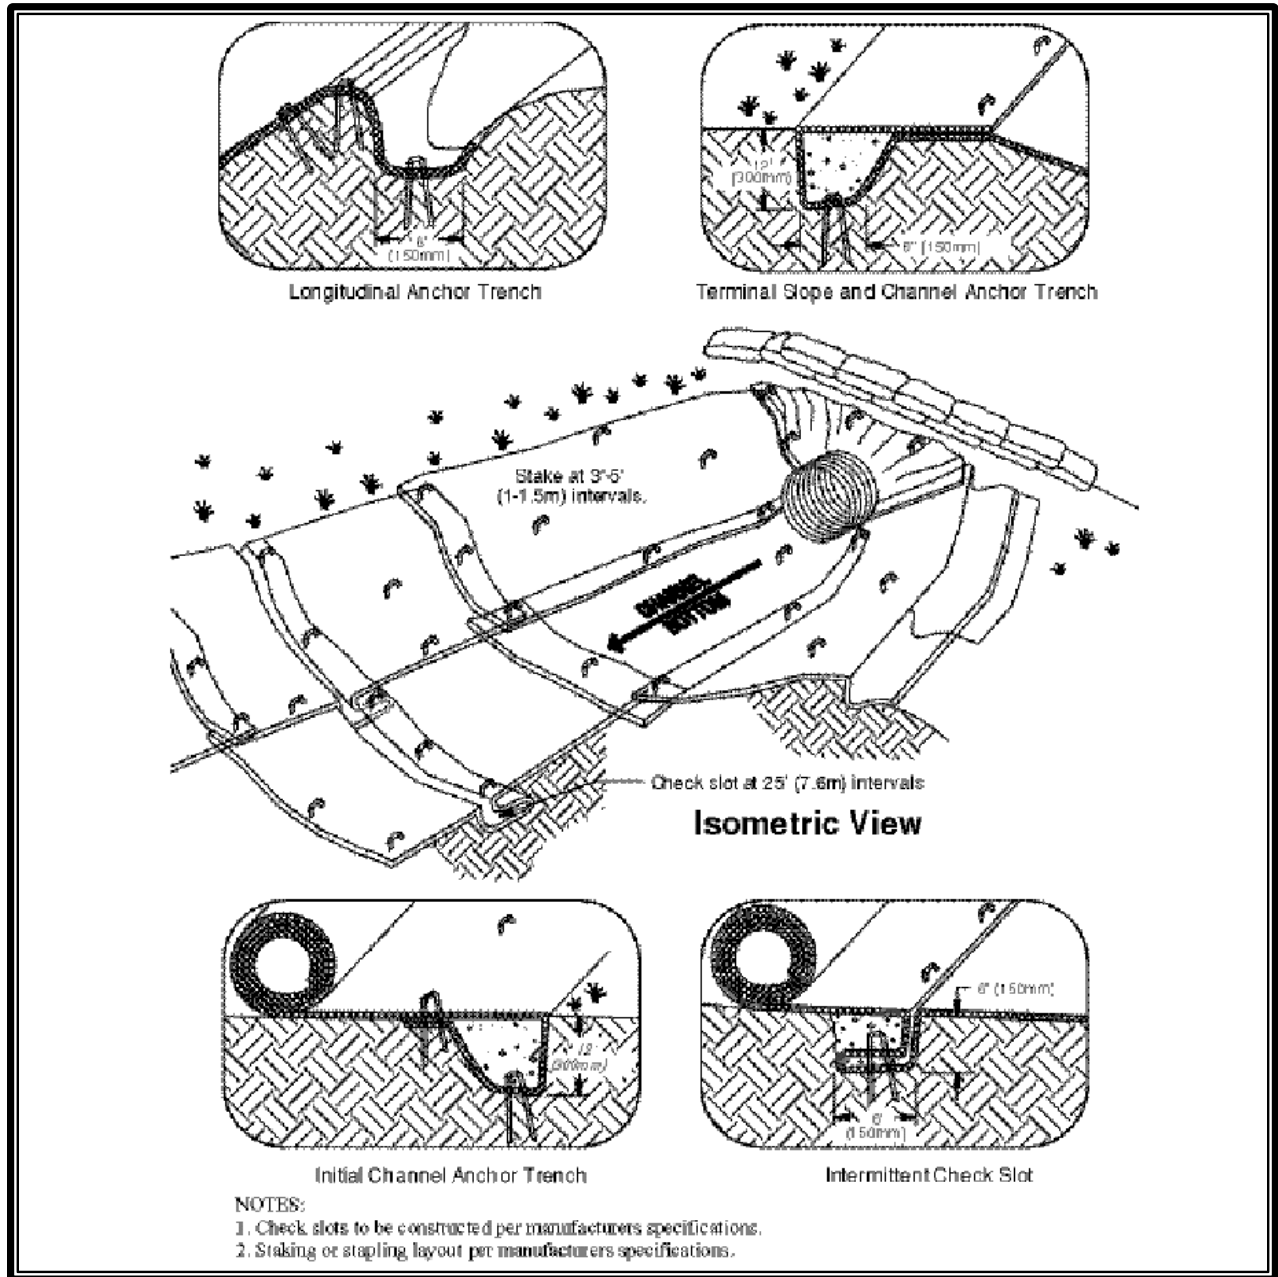

Figure 3.2. Channel Installation.
- See Figure 3.2 and Attachments Section C, Detail 16.0 for typical orientation and installation of blankets used in channels and as slope protection. Note: These are typical only; all blankets must be installed per manufacturer's installation instructions.